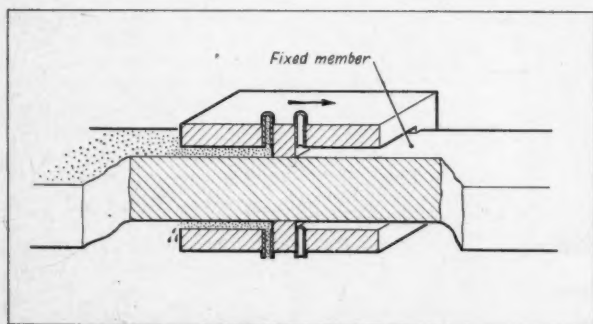
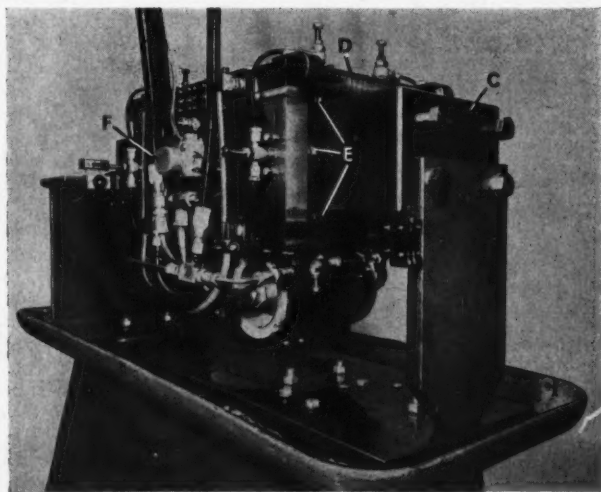

Fig. 2. Two-way opposed pocket arrangement, designed to balance the separating forces
Fig. 3. Numerically-controlled test rig, incorporating moiré fringe position feed-back
A 2-way version of the device, with opposed pockets to balance the separating force tending to lift the moving member off the ways, is shown diagrammatically in Fig. 2. This arrangement forms the basis of the test rig shown in Fig. 3, in which the stationary member C comprises a square-section steel body with ground surfaces. The carriage D is supported on hydrostatic bearing-pads at each
Since the photograph in Fig. 3 was taken, a large block of lead has been attached to the rig, at the far end, as viewed in the illustration, to simulate, more closely, the inertial effects of an actual machine-tool structure.
To enable the dynamic performance of the rig to be studied, it is arranged to operate in an electronically-controlled closed-loop servo system, with punched-tape numerical input, and moiré fringe position feedback. For controlling the rate of flow of oil to the pockets, use is made of a Dowty Moog valve \* (F, Fig. 3). The rate of build-up of thrust is governed mainly by the performance of this valve, and by the capacity of the interconnecting ducts and manifolds. Principal particulars of the rig are as follows: pocket height, width and length, 0.006 in., 5.62 in. and 3.2 in., respectively; leakage gap, 0.001 in., nominal; side leakage path length, 0.5 in.; oil viscosity, 0.65 Stokes at 20 deg. C.; inlet pressure to valve, 1,000 lb. per sq. in.; differential pressure at pocket inlets, at 3 gal. per min. flow, 440 lb. per sq. in.; theoretical thrust at this pressure differential, 14.9 lb.; actual thrust, 14.25 lb.; moving mass of carriage, 200 lb.
Fig. 2. On this 6-spindle vertical chucking automatic the motor-case forging blanks are machined in preparation for flow turning. The operations are carried out at two separate set-ups
the shell or case by flow-turning. The shell, which is the principal component of the motor, is produced from a rough forging weighing approximately 250 lb. It is forged from a special steel developed by United States Steel Corporation for the purpose. Production batches of these forgings, after careful inspection, are sent to the 6-spindle vertical chucking machine illustrated in Fig. 2. Two separate series of operations on this machine are required to prepare the forging blanks for subsequent flow turning.
**Fig. 3. The third and final pass on the flow-turning machine is here seen in progress. Cold-working of the material avoids the need for subsequent heat-treatment**
The blanks are then transferred to the flow-turning machine shown in Fig. 3 on which rollers, applied under a force of 120,000 lb., form them against a polished hardened-steel mandrel. This forming operation reduces the wall thickness of the blank and increases its length. Hardened, precision-ground templates control the paths of the rollers, thus determining the extent of the reduction in thickness.